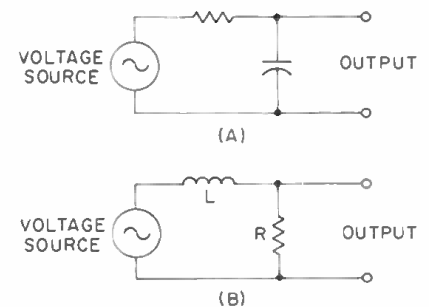

Figure 1. At (A) an R-C circuit; at (B) an R-L.
Time constants refer to circuits having a resistance and capacitance, or resistance and inductance. *Figure 1* shows two circuits we are all familiar with. In (A) a voltage generator is driving a series circuit containing R and C; the output voltage is taken across C. In (B) a voltage generator is driving a series circuit containing R and L; the voltage output is taken across R. The response of both circuits is the same. At low frequencies the output is flat (see *Figure 2*). At frequency F the reactance equals the resistance and the response is down 3 dB. This is called the knee of the curve. One octave below the knee ($\frac{F}{2}$) the response is 1 dB-down, and on one decade below the knee ($\frac{F}{10}$) the response is 0.1-dB down. One octave above the knee ($2F$) the response is 7-dB down, and the curve will gradually approach 6-dB-per-octave as frequency increases.
The time constant of the R-C circuit of *Figure 1(A)* and *3(A)* can be derived by equating the resistance to the capacitive reactance: